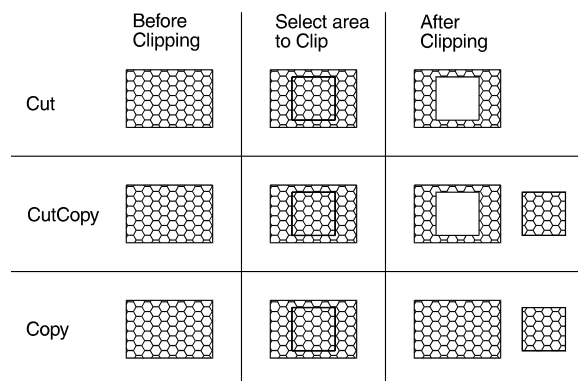

Figure 12.18: Different results from cutting, cutting and copying, and copying
6. Toggle Boundry on to leave the outline of the boundary in your drawing. (See “After Clipping” for Cut and CutCopy in Figure 12.18 for an example of a boundary outline.)